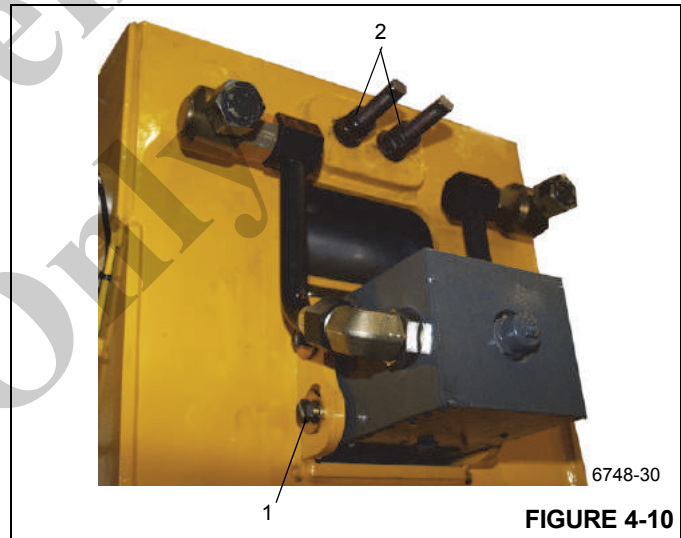

FIGURE 4-10
5. Remove the bolts and washers securing the telescope cylinder outer rod (Figure 4-10, 1) to the rear of the base section.
6. Remove the nuts and washers securing the synchronizing cable (Figure 4-10, 2) ends to the base section.